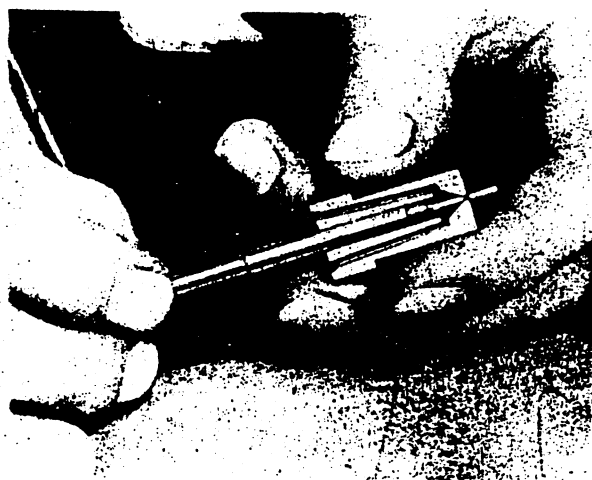

FIG. 130
5. For cleaning the orifice in the face of the nozzle body use the pintle hole cleaner (ET.069) and select an appropriate size probe from those supplied with the kit and fit it into the tapered hole in the smaller end of the brass holder for the earlier injectors, or the other end for the later ones. Pass the probe down the bore of the nozzle until it protrudes through the orifice, then rotate the nozzle, using only a light pressure, until all the carbon is clear, as shown in Fig. 130.